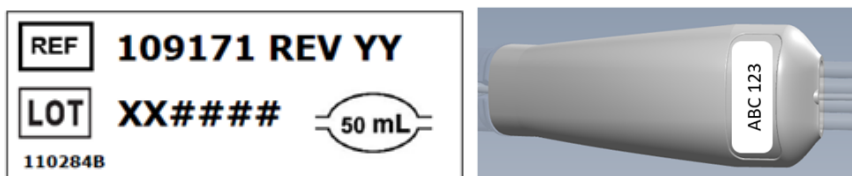

Figure 20: Sample ECD labels with maximum saline capacity
5. **Urologist:** After you confirm alignment, inflate the ECD balloon with 15-20 ml of saline to maintain upward pressure against the anterior rectal wall. Be prepared to fill the balloon up to the maximum capacity as stated on the label on the ECD body (*Figure 20*) or until the ECD is securely positioned in the rectum. It is important that the ECD remains stationary at the correct insertion depth during MR imaging and treatment.